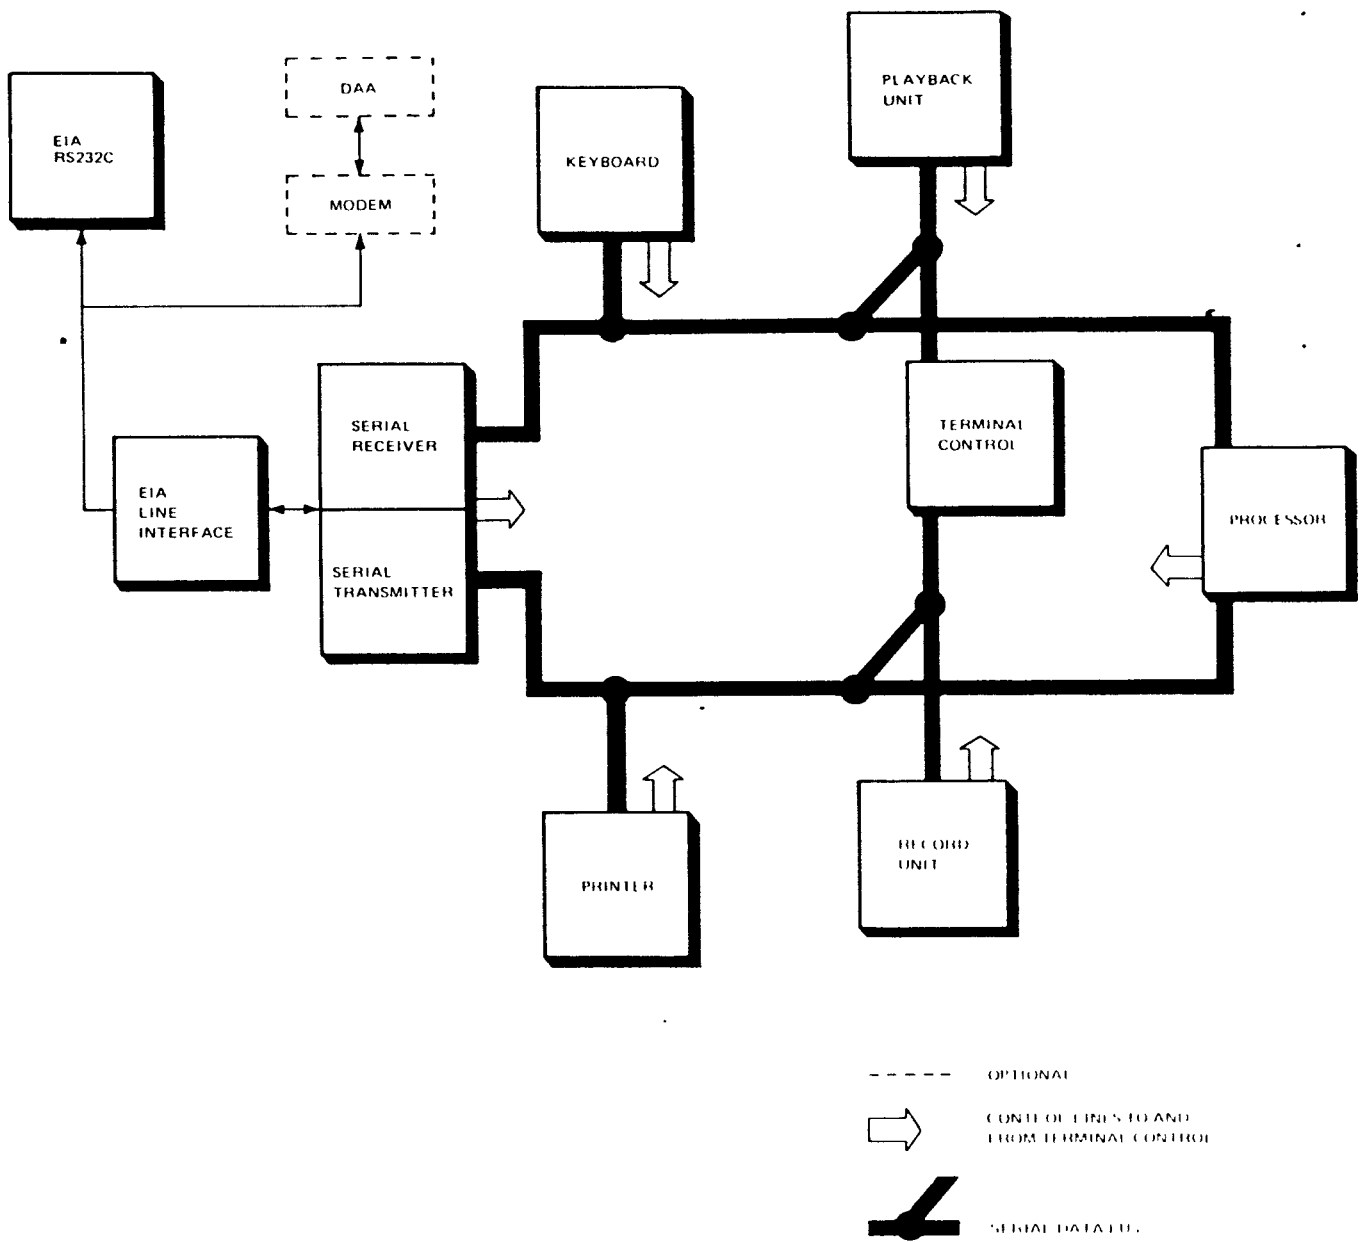

FIGURE 3-2.1. MODEL 742 PROGRAMMABLE DATA TERMINAL SYSTEM ARCHITECTURE
The Model 742 Programmable Data Terminal architecture is arranged around a single, serial data bus, a concept illustrated in Figure 3-2.1. The data bus is time-shared both by a line loop and a local loop within the terminal and by the devices within each loop through the processor. Which devices may use the serial data bus, and during what times, are decided by the terminal control function in conjunction with the processor. All data flows through the processor with two exceptions: (1) the status character from the tape cassette (upper unit) is received by the terminal control, and (2) the recorder print buffer function is not monitored by the processor.